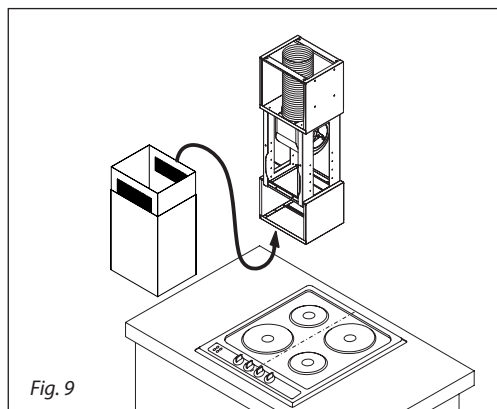

Fig. 9
6. Put the upper and lower chimney cover onto the mounted cooker hood holder (Figure 9).